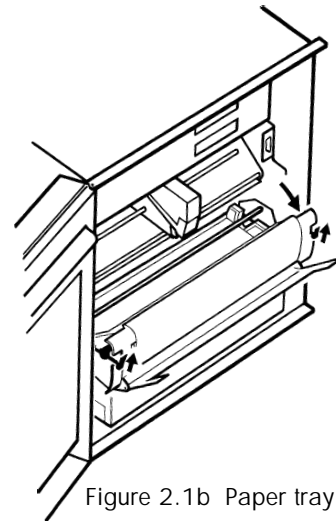

Figure 2.1b Paper tray access
* To free the paper it may occasionally be necessary to release the platen, by lifting the latches as shown in figure 2.1b